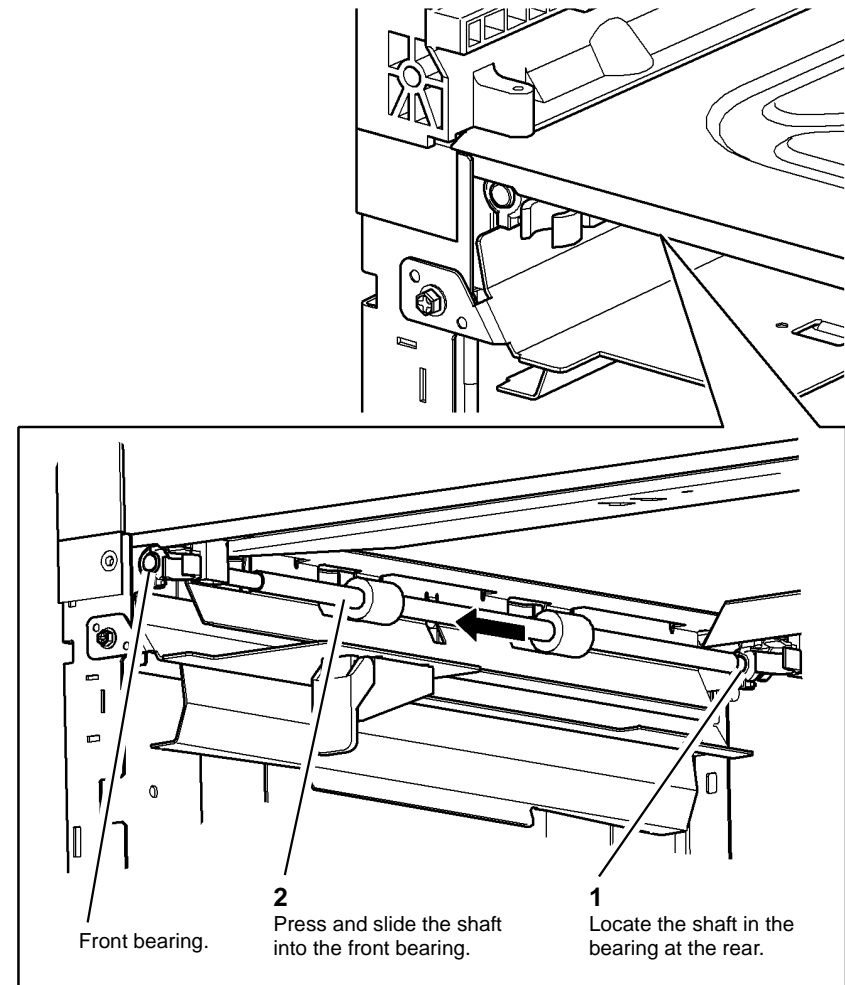

Figure 4 Install the transport roll
- Install the tray 3 and tray 4 transport roll, Figure 4